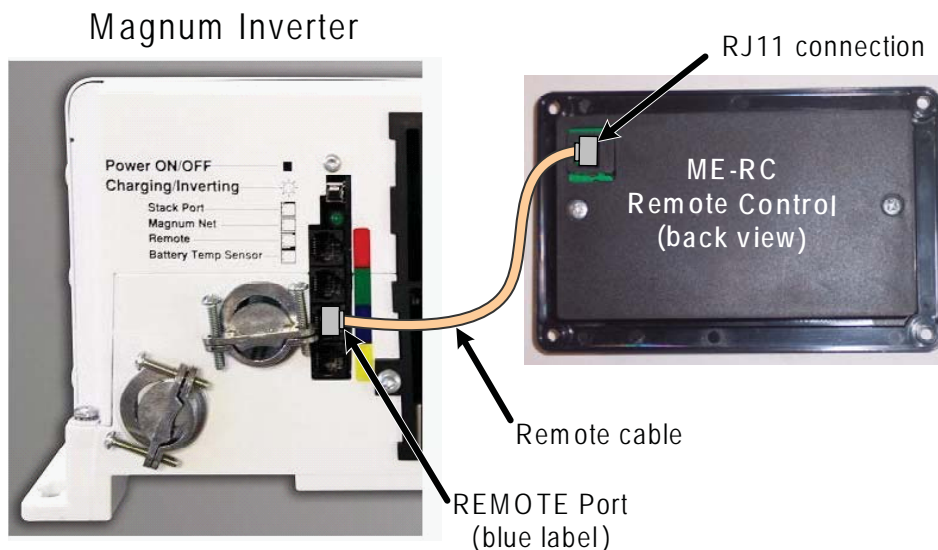

Figure 2-2, Remote Control Connections
4. Connect the remote cable into the RJ11 "Remote" port (has blue label) on the inverter/charger (see figure 2-2).
6. While monitoring the front of the remote, connect the other end of the cable into the RJ11 jack on the back-side of the remote (see figure 2-2).